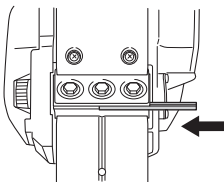

Fig. 13
- (2) As shown in Fig. 13, mount the new carbide blade by sliding it on the set plate (B) so that the blade tip projects by 1 mm from the end of the cutter block.